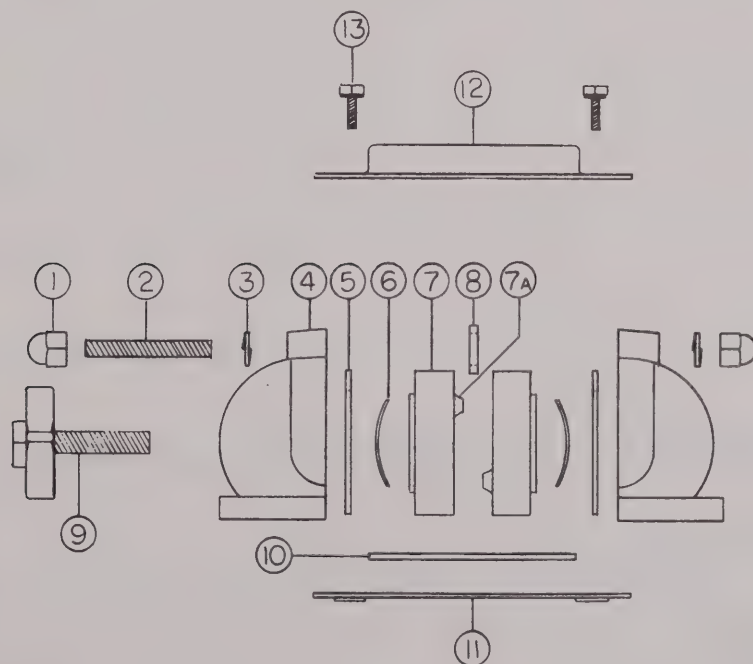

Figure 1.
4. Remove the fastening bolt (item 2) from the outer housing assembly and separate the halves.
5. Remove the inner cylinder halves (item 7) and place one (1) neoprene washer (item 5) on the outside of each cylinder half, as shown in Figure 1.
6. Replace each inner cylinder half into its respective outer housing half, (item 4), making sure that the springs (item 6) remain centered in their wells.
7. If the inner cylinder halves have positioning pins (refer to item 7A) place the fibre washer (item 8) between the outer housing halves and fasten the assembly securely with the fastening bolt (item 2) making sure that the fastening bolt runs through the fibre washer.
8. Slip the entire assembly through the mounting frame (item 12).
Refer to Figure 1, PC Board Detail for removal of resistors circled.